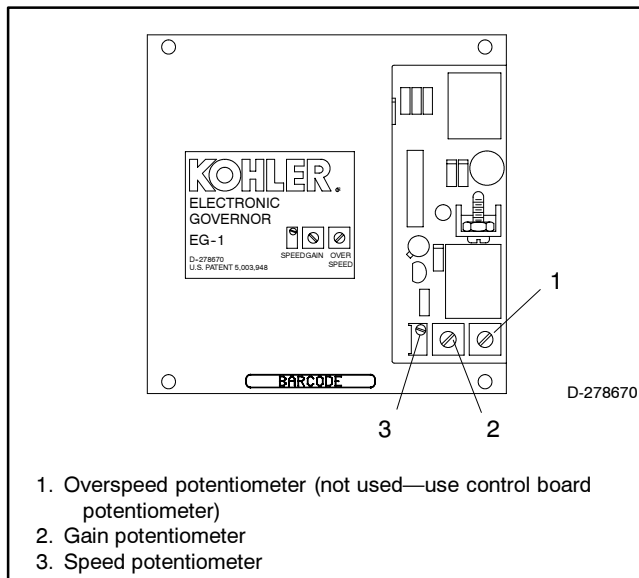

Figure 6-21 Governor Adjustment Potentiometers
4. Adjust the electronic governor speed potentiometer to obtain a frequency reading of 60 Hz (or 50 Hz on 50 Hz models). The governor potentiometers are shown in Figure 6-21. Turn the speed potentiometer clockwise to increase the frequency and counterclockwise to decrease the frequency.